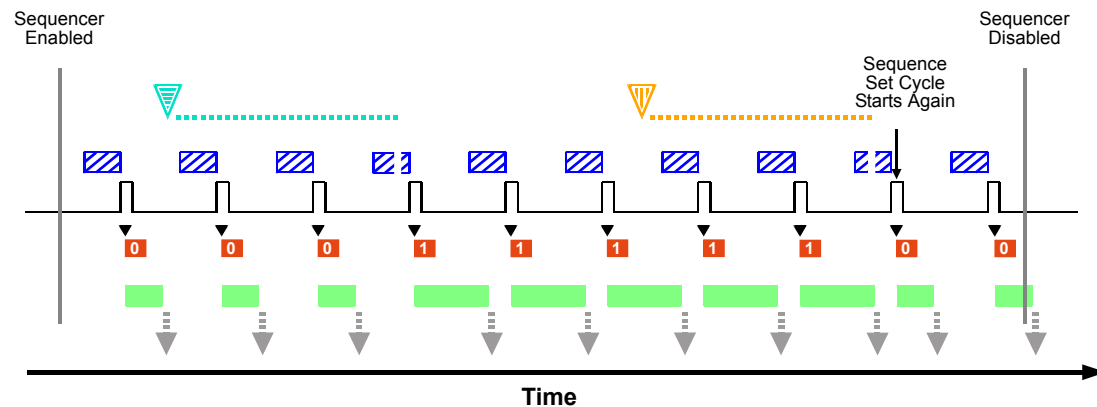

Fig. 63: Sequencer in Controlled Sequence Advance Mode with Disabled as the Sequence Control Source and Asynchronous Advance and Restart
The following use case (see also Figure 63) illustrates the operation of the sequencer in controlled sequence advance mode with Disabled selected as the sequence control source. Sequence set advance proceeds in ascending sequence set index numbers subject to asynchronous advance commands. After one sequence set cycle is complete, another one starts. Sequence set cycle restarts are subject to asynchronous restart commands.
set 1, are loaded into the active set. Note that the camera briefly exits the "waiting for frame start trigger" status while the parameter values of sequence set 1 are loaded into the active set (see also Figure 63).
- When the AsyncRestart command becomes effective, the camera happens to be in "waiting for frame start trigger" status. The parameter values of sequence set 0 are loaded into the active set. Note that the camera briefly exits the "waiting for frame start trigger" status while the parameter values of sequence set 1 are loaded into the active set (see also Figure 63).